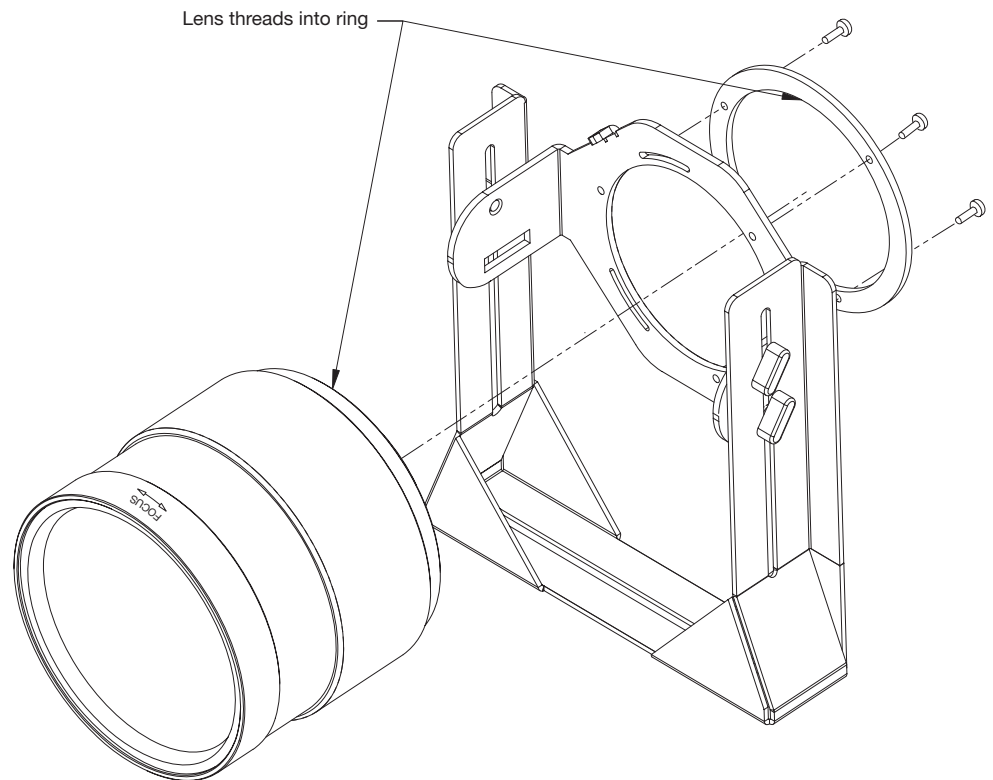

Figure 3-25. Attaching the Anamorphic Lens to the Lens Ring
4. Use the Lens Mounting Screws to attach the Lens Adapter Ring (item #1) to the Pitch Adjustment Yoke (item #2); see Figure 3-25. (Use the round, threaded holes on the yoke.)